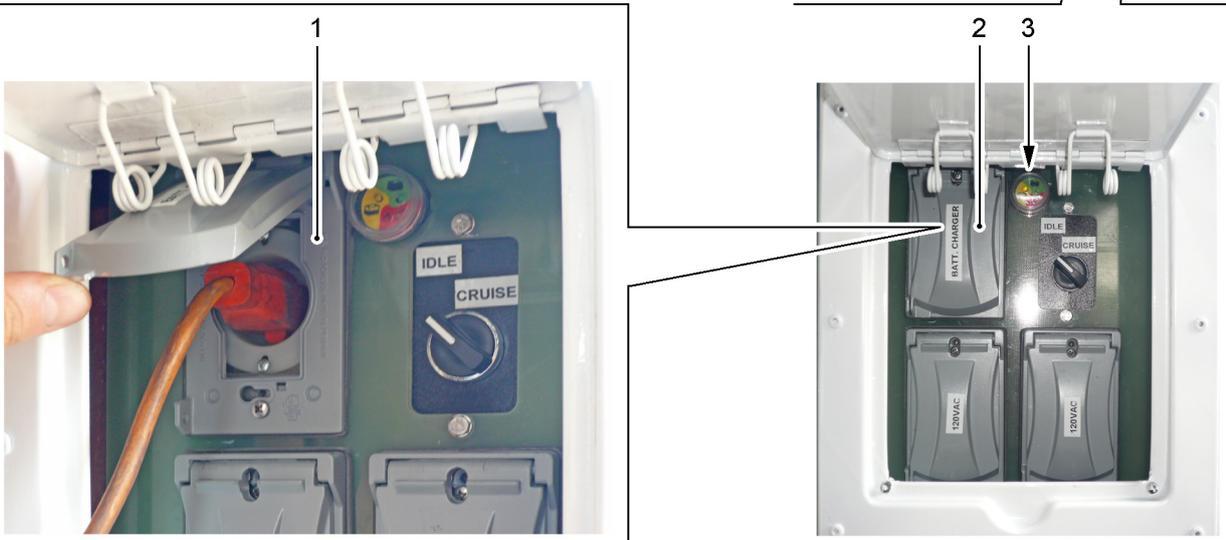

Figure 6.46 - Battery charger (Optional)
On the Induction Heating Generator IHG 150CU a battery charger (see Figure 6.46) may be installed as optional. The activation of the battery charger can be effected by simply connecting a 120 Vac socket to the electric plug (1) located inside the cover (2).
Do not power the command and control panel of the generator when the battery charger (see Figure 6.46) is operating.